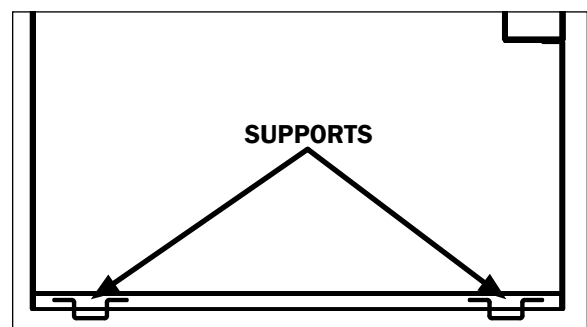

Fig. 2 Horizontal (sled runner) supports CF-SC (R-290)
7. Locate horizontal or vertical (caster) support positions along the chalk line (Fig. 2 & 3). Spot properly leveled shim packs at each support location.